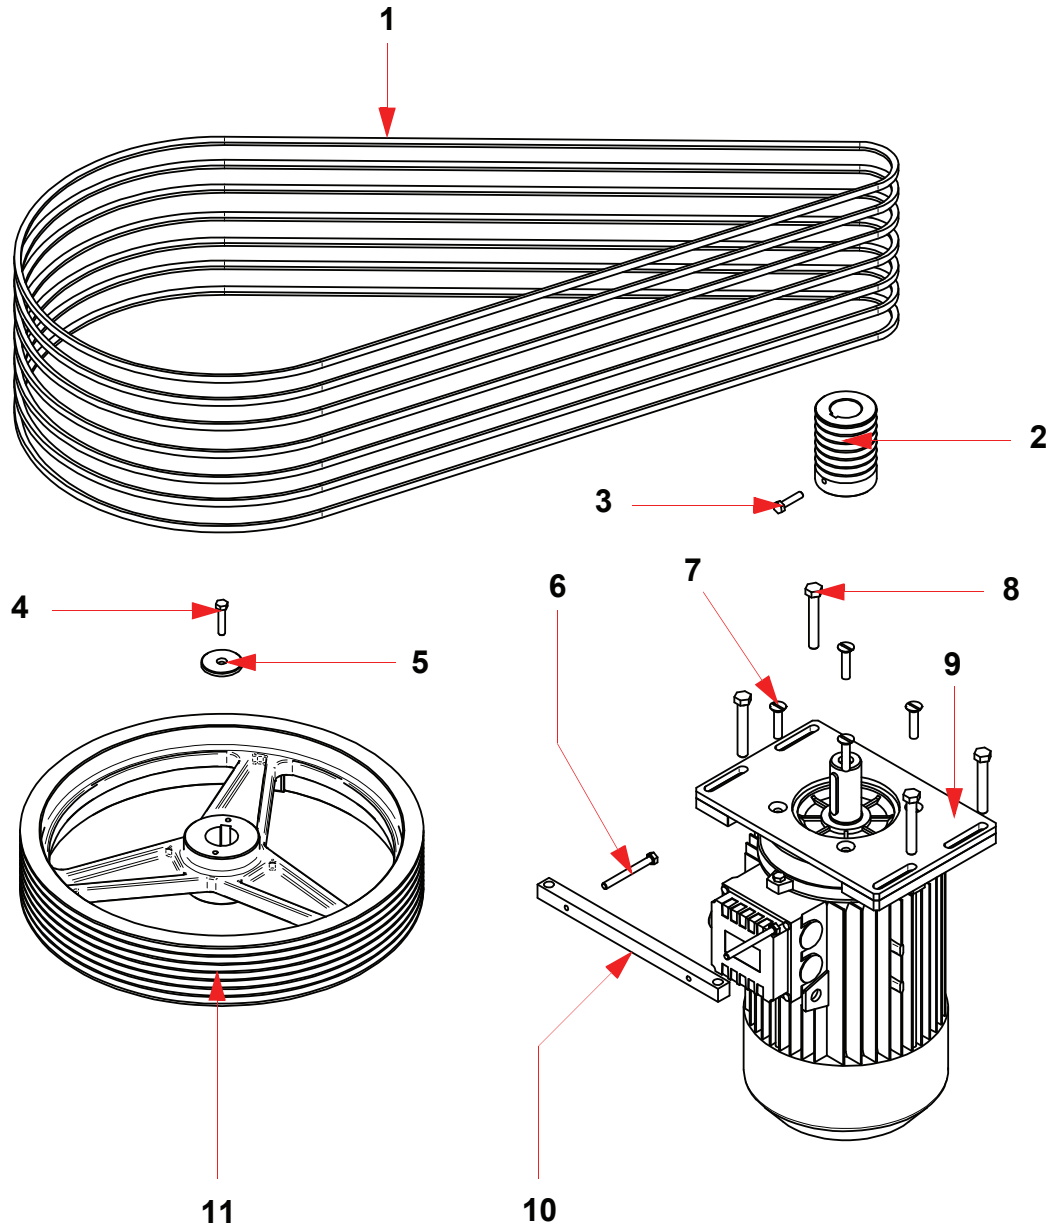

Fig. 13 Kneading tool drive
- 2) slacken off the 2 bolts (**rif. 6 Fig. 13** on page 47) of the tie rod (**rif. 10 Fig. 13**);
- 3) slacken off the 4 bolts (**rif. 8 Fig. 13**) securing the motor base (**rif. 9 Fig. 13**);
- 4) move the motor base (**rif. 9 Fig. 13**) to slacken off the belts;
- 5) extract any worn belts (**rif. 1 Fig. 13**) and replace them with new ones;
- 6) tighten down the 2 bolts (**rif. 6 Fig. 13**) of the tie rod (**rif. 10 Fig. 13**) until the belts are properly tight;
- 7) tighten down the 4 bolts (**rif. 8 Fig. 13**) securing the motor base;